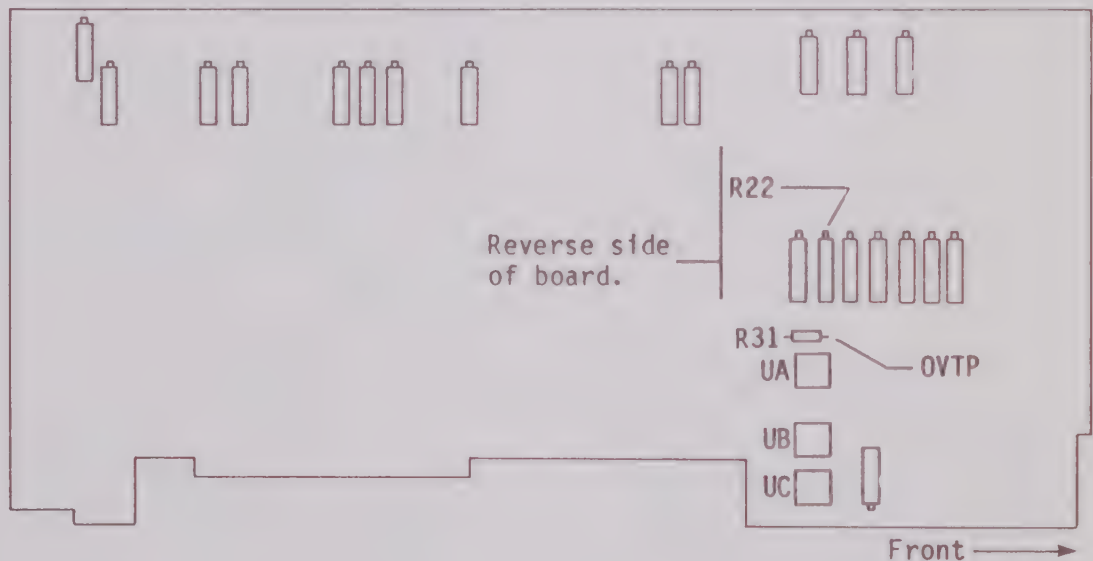

Figure 3-1
3.1.3. Measure the voltage at OVTP, (Figure 3-1).
SPECIFICATION (See Figure 3-1)